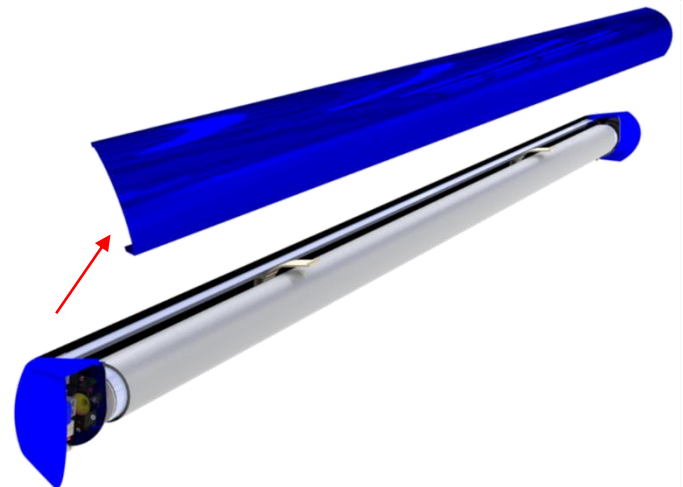

Figure 38: Audience left, front of unit, showing fascia removed
3. Lift in an upwards motion once the bottom clip is free, and remove the fascia (see Figure 38). Set aside in a safe location.